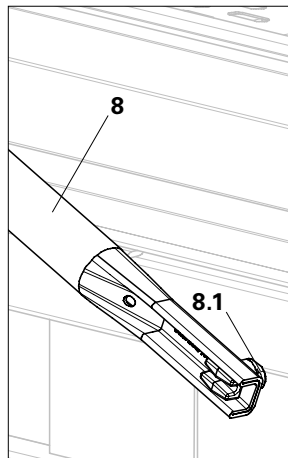

Fig. A11.01a
1. Insert finger (8.1) of the Ledger Brace UBL (8) into the bottom Ledger UH. (Fig. A11.01a)